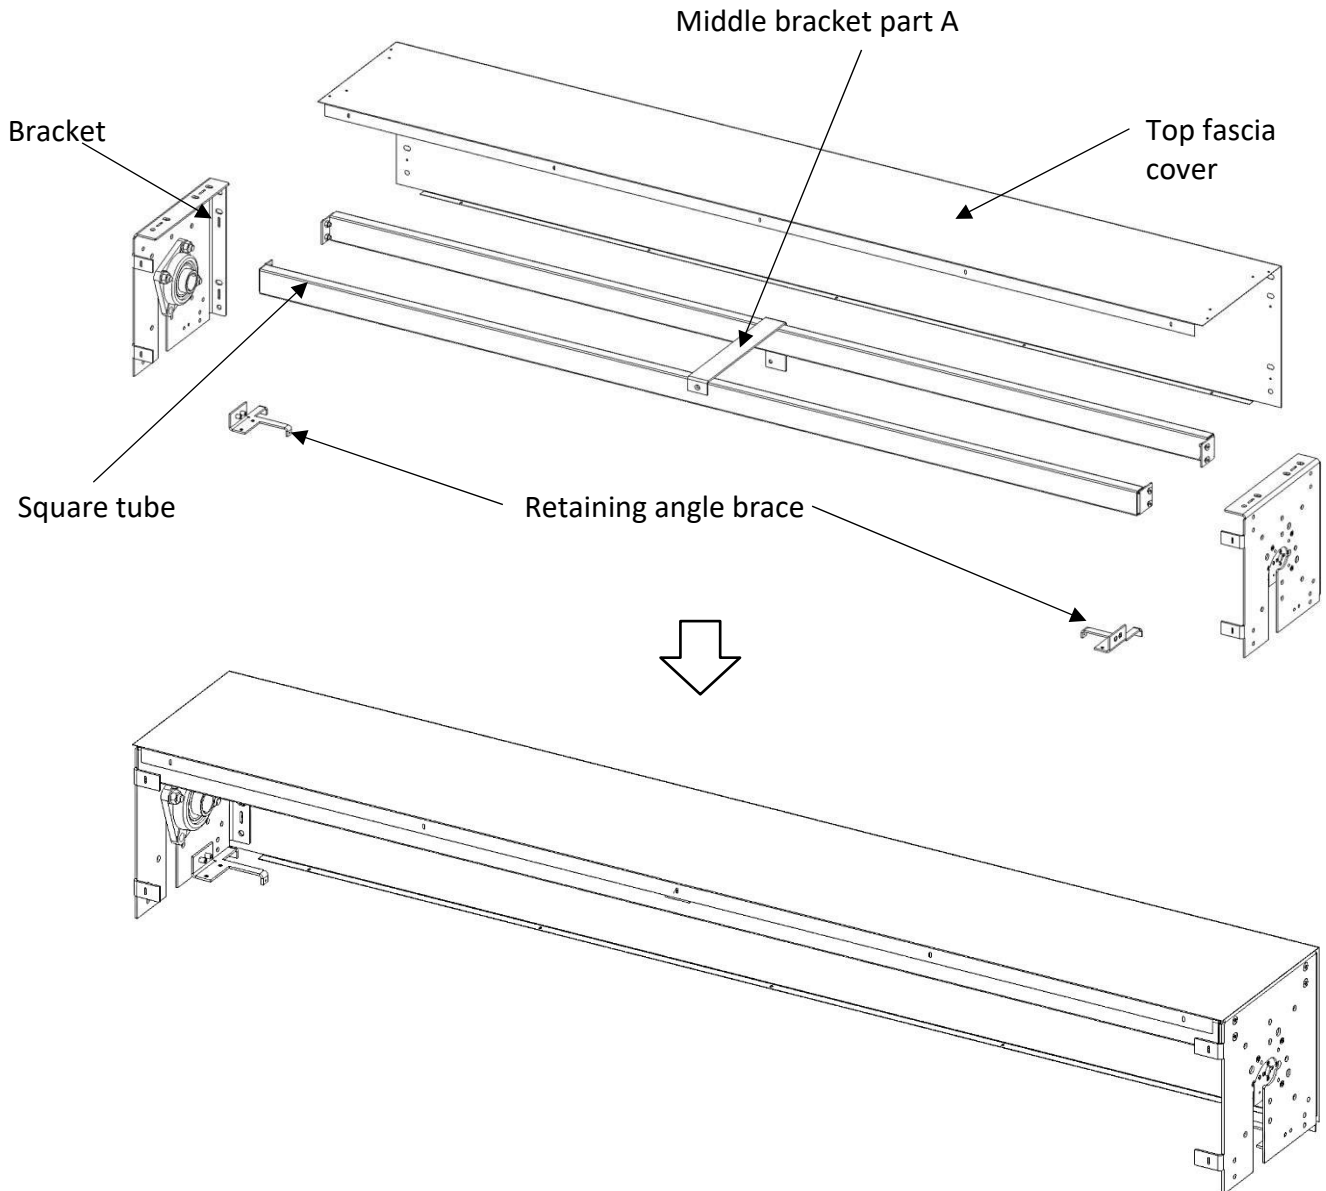

Fig. 14. Installation of the shaft box parts
- 15) Insert the curtain into the recesses in the guide rails so that the running shoes are in separate channels (Fig. 14).